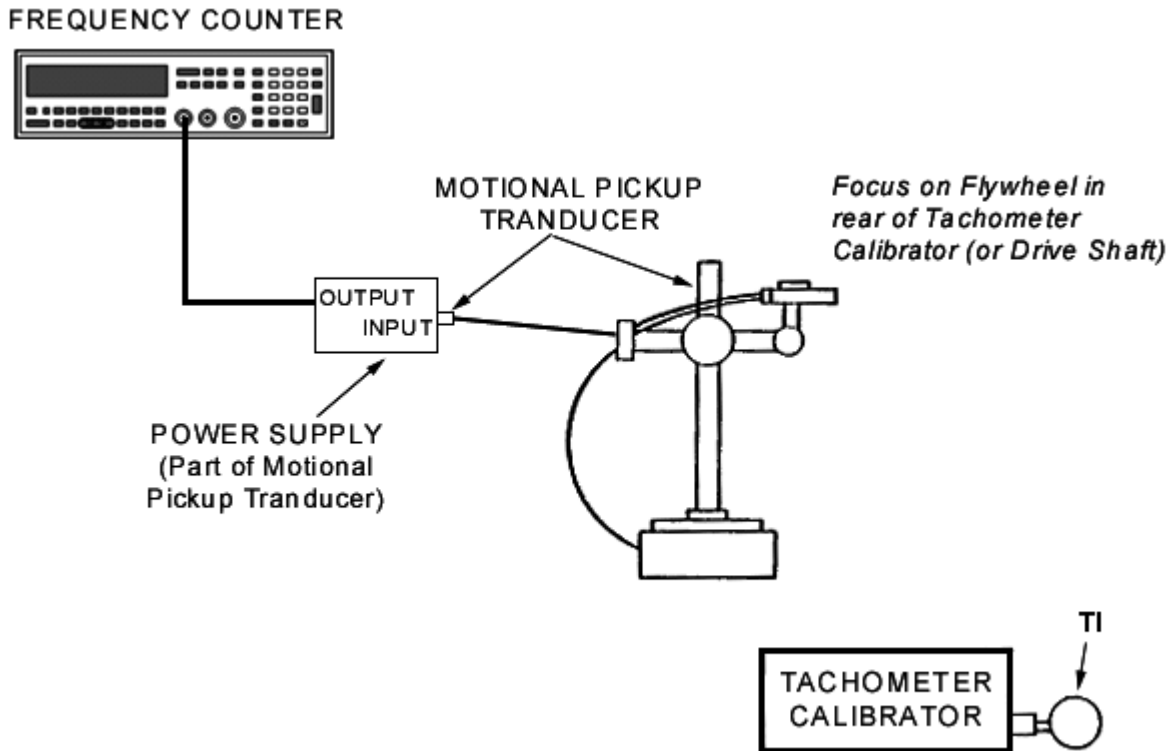

Figure 1. Tachometer - accuracy setup.
- d. Connect equipment as shown in figure 1.